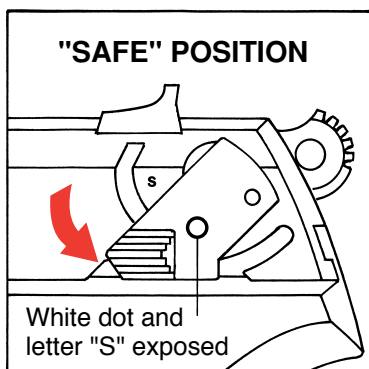

FIGURE 1
To apply the manual safety and decock the pistol, **point the pistol in a safe direction**. Move either the right- or left-hand safety lever fully to the “safe” position. When the safety is moved fully downward to the “safe” position, the white dot is exposed through the hole in the side of the safety and the letter “S” is completely visible. See Figure 1, p. 11. In this position (1) the firing pin is blocked from moving forward, (2) the hammer is blocked from contacting the firing pin, and (3) the entire firing mechanism is completely disengaged from the trigger. At this point, the hammer will fall to its forward (decocked) position.
The pistol can and should be loaded and unloaded with the safety engaged in its “safe” position (lever fully down, white dot and the letter “S” exposed). **The safety should be in its “safe” position at all times except when the user is deliberately positioned to fire at a selected target.** See Figures 1 and 2, below, which illustrate the two positions of the safety.
2. **Move either the right- or left-hand safety lever fully downward to its “safe” position so that the letter “S” and the white dot are fully exposed.** (See Figures 1 and 2 on page 11.)
The trigger is inoperable when the safety is fully engaged in its “safe” position (lever fully down, white dot and letter “S” exposed; see Figure 1 on page 11).
7. If the pistol is not to be fired immediately, the safety should remain in its “safe” position. (See Figure 1, p. 11.)
1. The muzzle of the pistol must be pointing in a safe direction at all times, and fingers should be outside of the trigger guard. Put the safety in its “safe” position (see Figure 1 on page 11) by rotating the safety fully downward until the letter “S” is fully exposed and the white dot shows. The safety can be engaged whether the pistol is cocked or not.